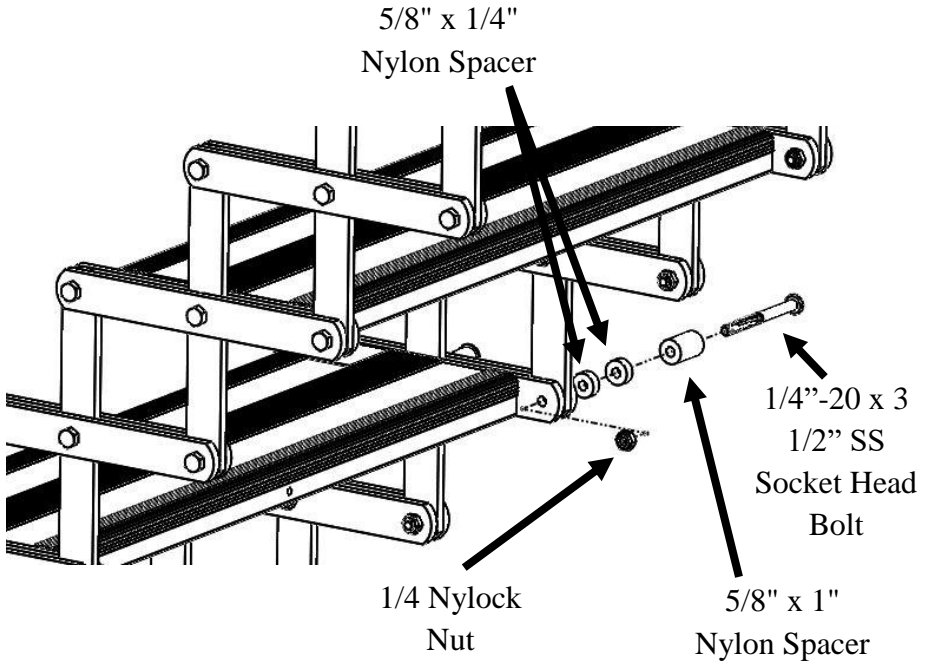

Figure 4.2
- Install the **1/4"-20 x 3 1/2" SS Socket Head Bolt** with one **5/8" x 1" Nylon Spacer** and the two **5/8" x 1/4" Nylon Spacers** as shown in *Figure 4.2*.